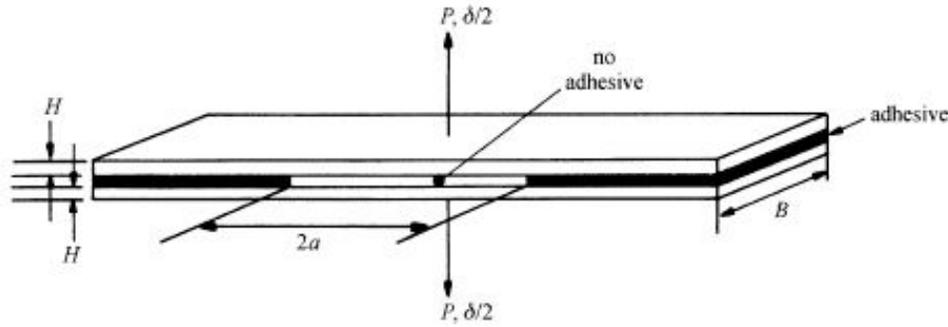

Figure 2: Geometry and loading of joined plates (image source: Suresh, Fatigue of materials)
3. A composite laminate is made by bonding two long thin strips of steel with an adhesive epoxy, as shown in figure 2. A patch of the adhesive was intentionally left out in the central section in order to create a central crack of length  $2a$  in the bilayer plate. The joined plates are pulled apart by equal and opposite tensile forces,  $P$ . From beam theory, the deflection of a double cantilever beam of length  $L$  (half the crack length) under load  $P$  is  $\Delta = \frac{PL^3}{192EI} \Rightarrow$